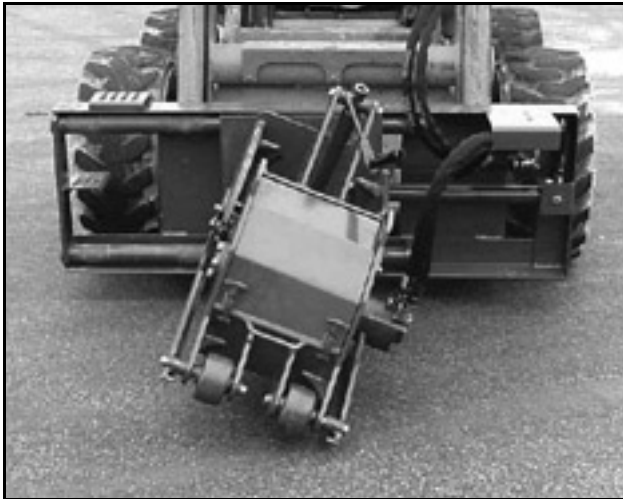

Figure 8.
2. Rotate the planer to the desired position (see Figure 8). Tighten the backplate bolts.